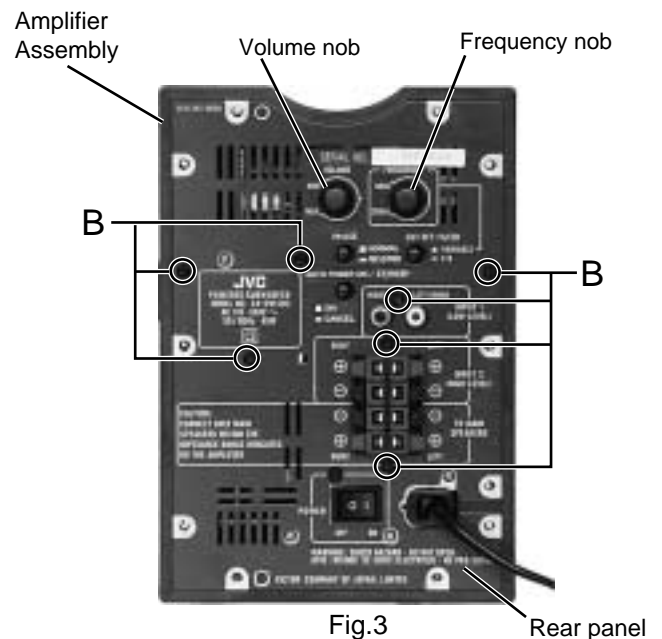

Fig.3
■ Removing the rear panel (See Fig. 3)